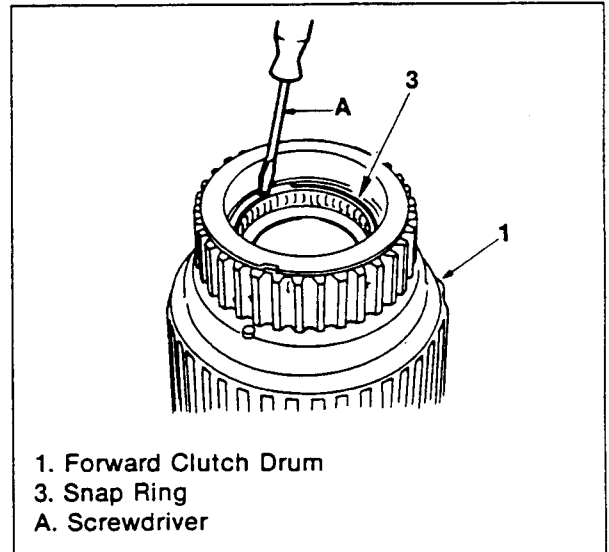

Figure 191. Low One-way Clutch and Snap Ring Removal
2. Remove the low one-way clutch, the snap ring and the large needle bearing (figure 191).